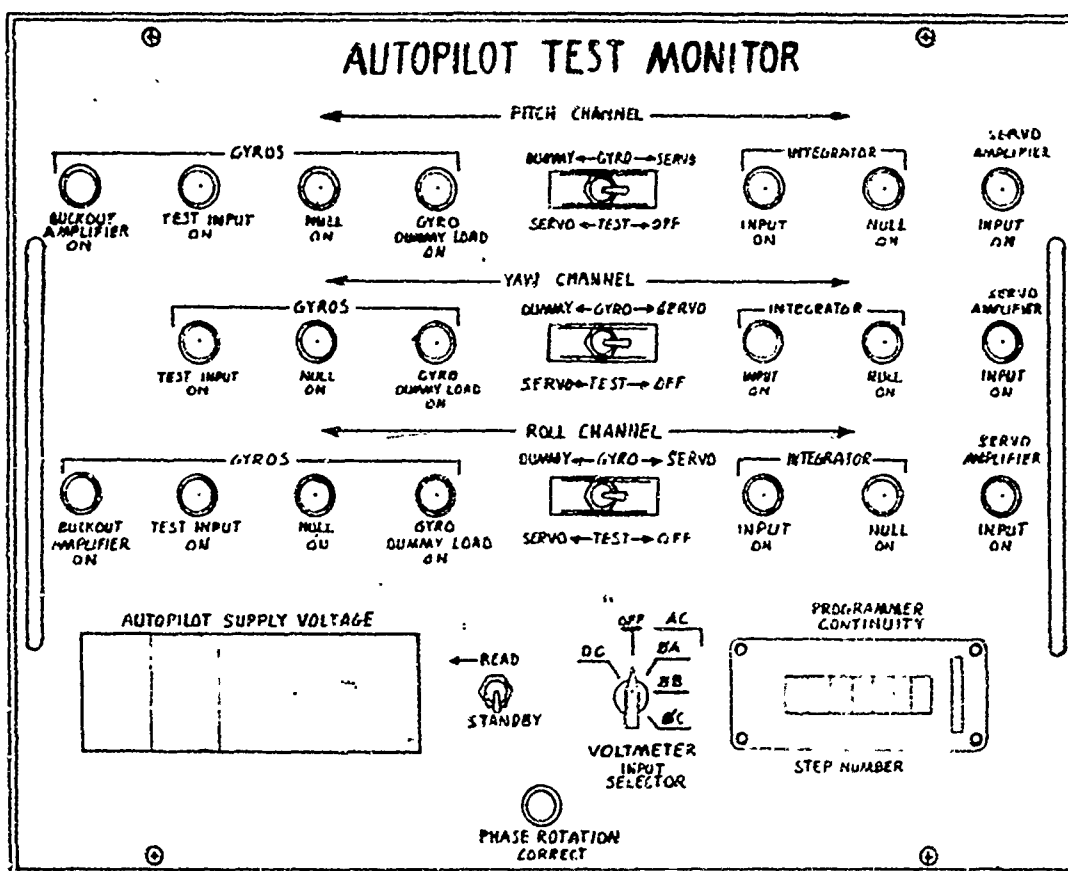

FIG. 14
- (B) To SUSTAIN the test, it is necessary to advance the tape by use of the Telephone Dial in the LOWER RIGHT corner of the panel; each digit advances the tape one (1) step. When the tape is being read, this is equivalent to one-tenth (1/10) second REAL time. Therefore, for each 0.1 second test duration, the corresponding number on the dial should be used. FOR EXAMPLE:
- (a) Dialing 5 will sustain the test 0.5 or 1/2 second; dialing 0 will sustain it 1.0 second, etc. A Program Continuity Counter located in the MONITOR PANEL above the Control Panel indicates the PROGRESS of the program by steps (Refer to Figure 14).
Any of these selections UNGROUNDS the Servo Amplifier INPUT and connects it to the Test Signal OUTPUTS from ATP (through the GUARDED switches in the Autopilot Test Monitor Panel directly above.) (See Figure 14.)